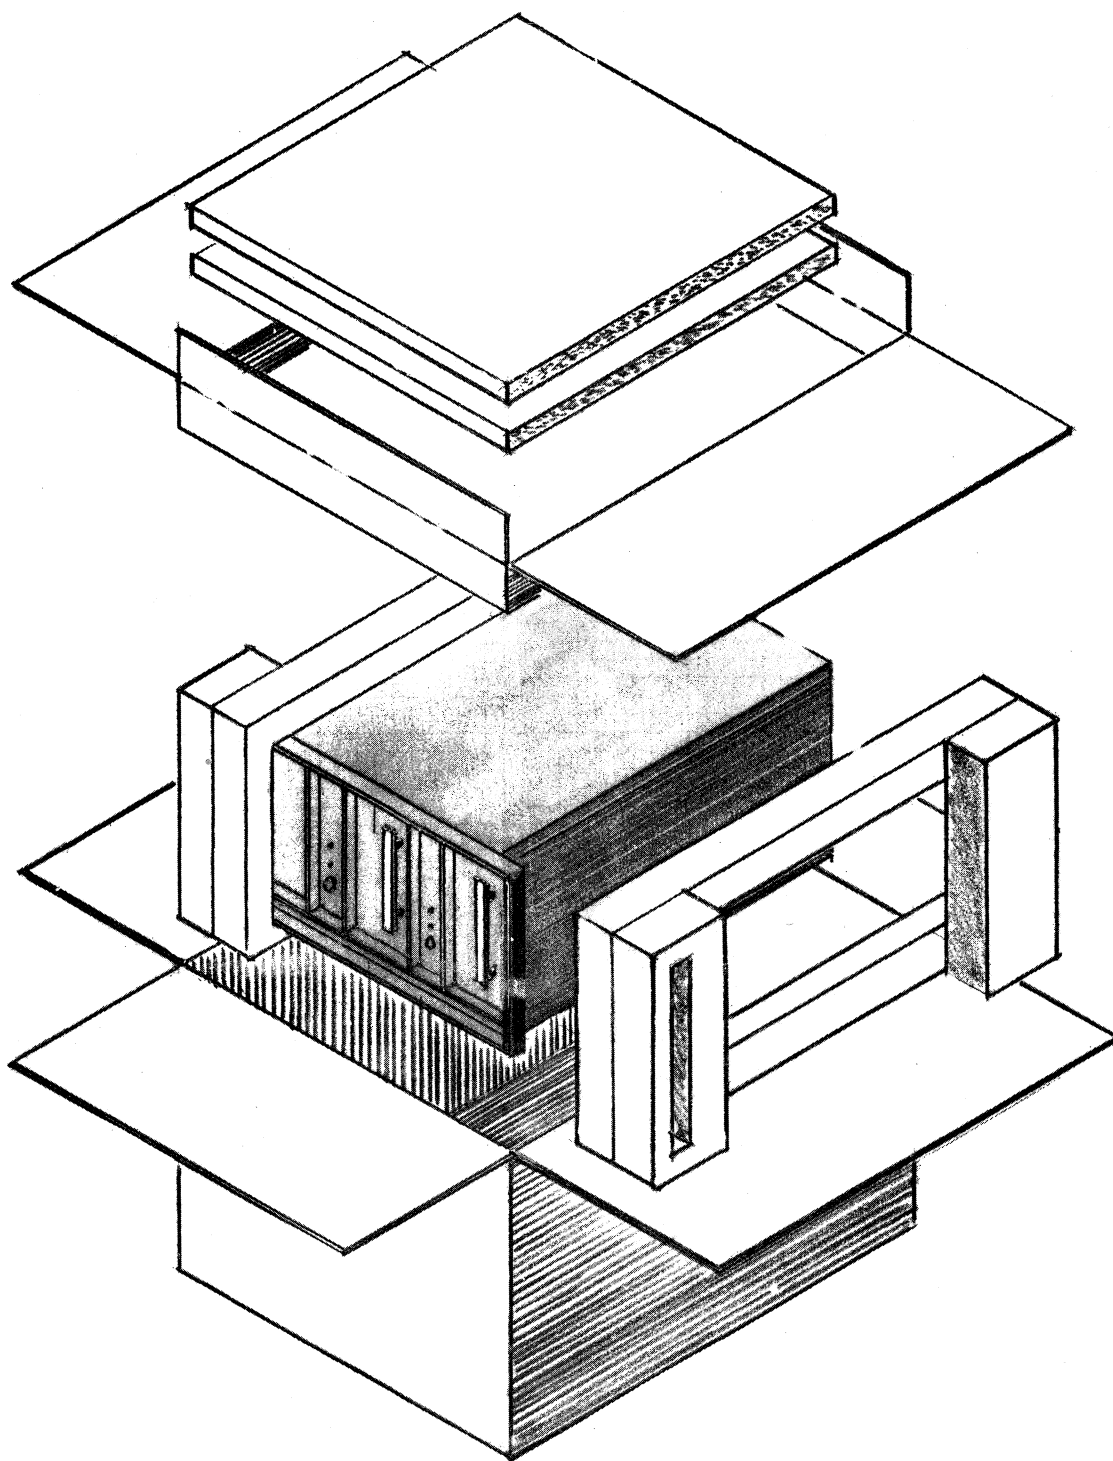

Figure 3-10
- 6) Close the shipping container and seal it with glass-reinforced paper tape (See Figure 3-10).